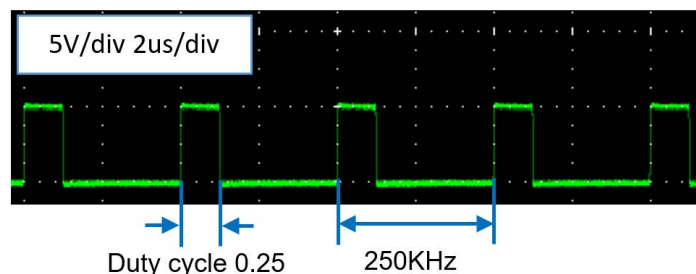

Figure 15. PWM Signal
2. Set up the PWM signal on the signal generator as shown in Figure 15, then turn on the PWM signal to the board.